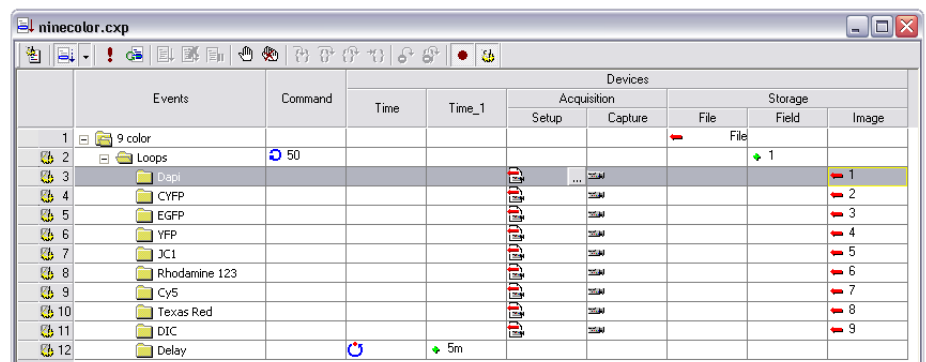

fig.11
8. Add Event icons to each event (**fig.11**). Press the action tag icon and click on the column to the left of each event as shown in figure 11 to mark the action.
Note: without the action tag icon the events are not executed. Also, It's a good idea to debug the acquisition before running it to make sure everything is working properly. Click on the first column to the left of the first folder (**Nine Color**), the breakpoint icon appears (brown circle) (**fig.11**). Press the **Running line** icon and press the **Run** icon. The program will be run in the debugging mode. Click on the **Step in** icon to test each of the events. When finished debugging, click the **Abort** icon and remove all the breakpoints by clicking the **Remove all breakpoints** icon.